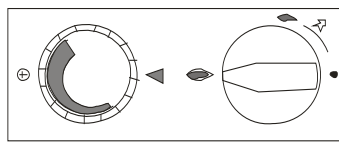

Figure 5- Main Burner Operational and Max. Gas Rate
3. Turn the GAS RATE ADJUSTING KNOB fully anticlockwise (until you reach the stop position) i.e. the maximum gas rate. See **Figure 5**.